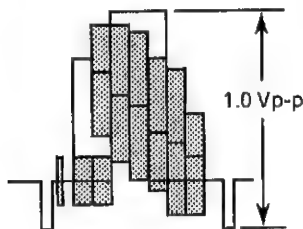

Figure 2-6.
8. Make sure that the amplitude of the playback colour bar signal is 1.0 \pm 0.04 Vp-p as shown in Figure 2-6.